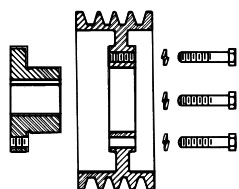

Fig. 1
2. Select the type of mounting (See Fig. 1 or 2) that best suits your application.